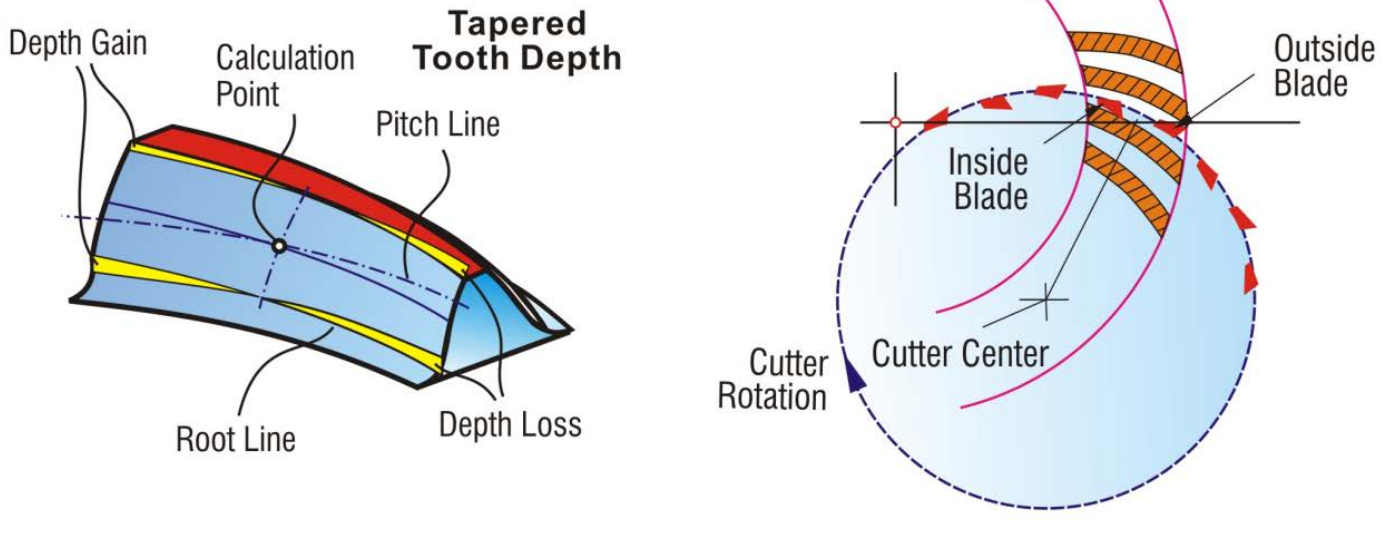

Figure 1 Single-indexing (face milling) Formate.
**Macrogeometry of face milled bevel gears.** Face milled gearsets are manufactured in single-indexing — one slot at a time. The right side of Figure 1 shows how all the inside and outside blades of a face mill cutter head pass through one slot of a plane gear, while the cutter moves perpendicular to the drawing plane until the full depth position is reached. For a simple explanation, it is assumed that the manufactured bevel gear is cut in Formate. In this case there is no additional motion and the cutter